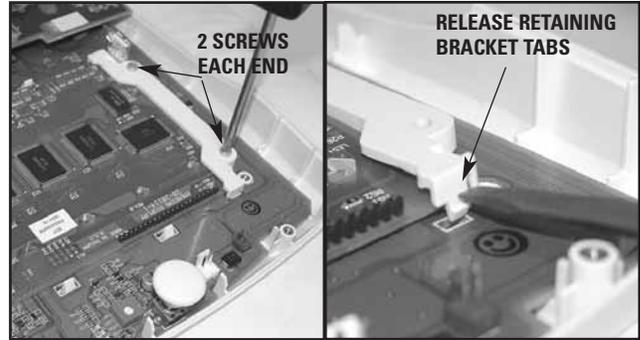

FIGURE 6.17
3. Remove the 4 LCD retaining screws. See Figure 6.17.
4. With a flat blade screwdriver, gently push in and up on each end of the LCD retaining brackets to free the locking tabs from the Control Board. See Figure 6.17.
3. Secure LCD Display with the 4 retaining screws. See Figure 6.17.